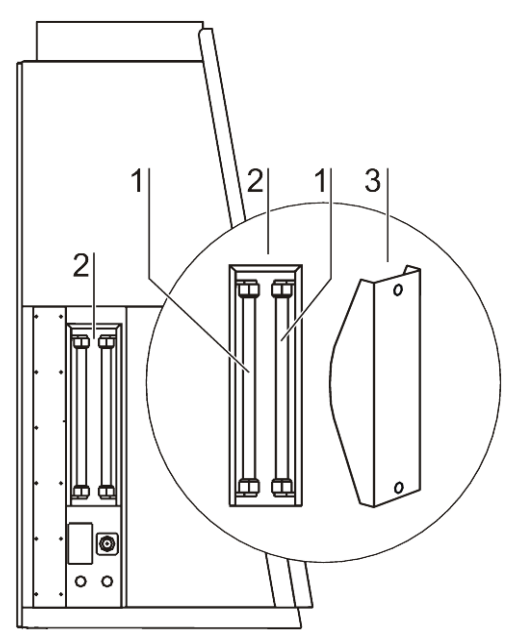

Fig. 8
**Fig. 8:** The UV lamp unit consists of two lamp housings [2] with two UV lamps each [1] that are integral to the side walls. Both lamp housings are protected by a stainless steel cover [3].